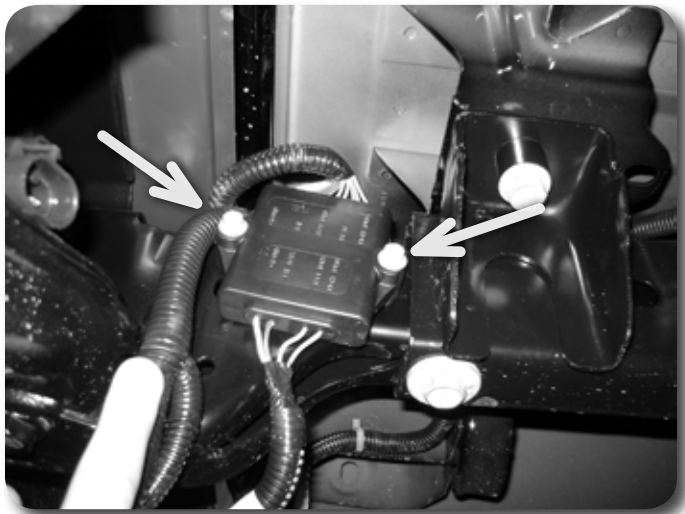

Figure 3
4. Remove the 2 bolts and the wiring module from the inside of the driver's side bumper bracket. Save hardware. Figure 3